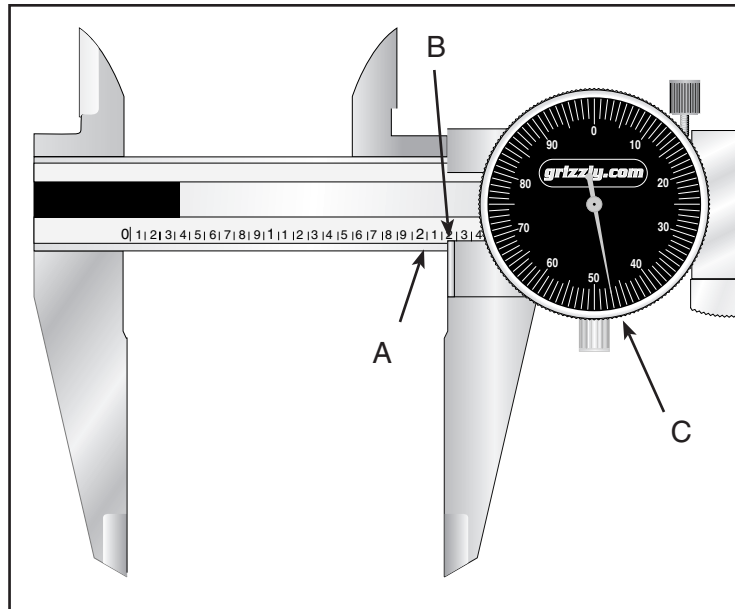

Figure 2. Measuring 2.147".
3. Each number on the **Revolution Scale** represents one full rotation of the needle and is equal to 0.100" (one hundred thousandths or 1/10 of an inch). The jaw index indicates which number is read. See **Figure 2** for how the measurement is read.
4. The **Dial Lock** secures the dial after zero is set. Clean the jaw faces of any dirt or dust and close the jaws together. If the hand is not on "0" then you can turn the dial to align it to "0". Once aligned, lock down the bezel with the dial lock (4).